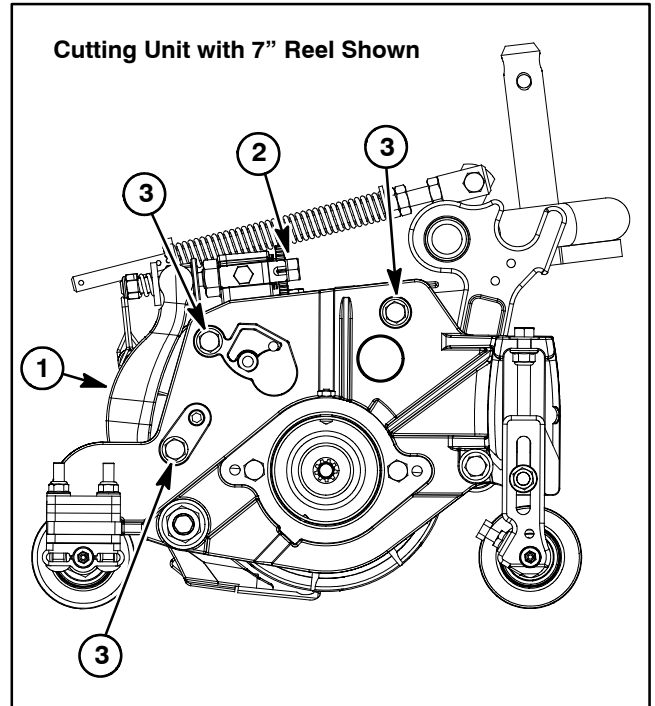

Figure 15
4. Loosen, but do not remove, shoulder bolts that secure the side plate to the frame opposite the side that is not level (Fig. 15).